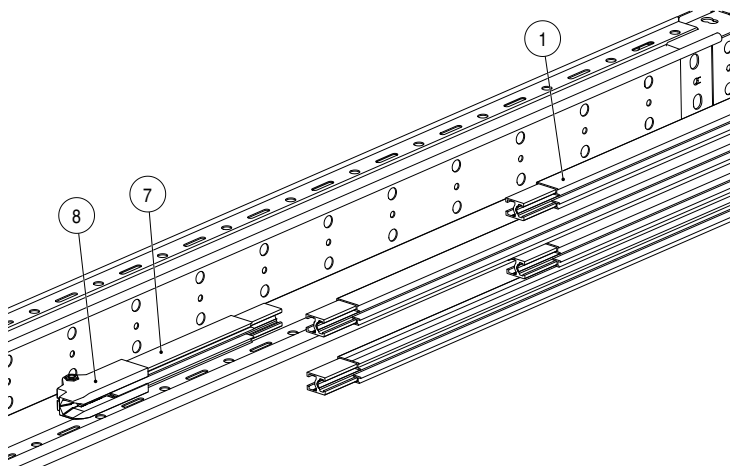
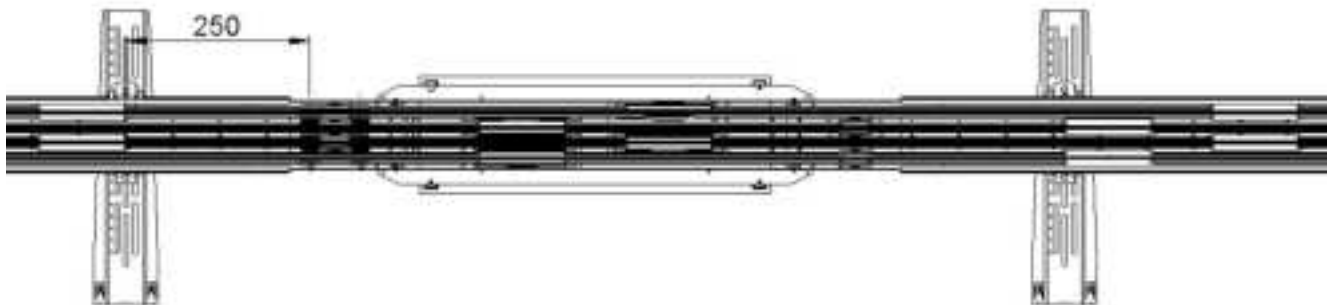

Fig. 34: Install short pieces (7) on conductor rail pieces
Fig. 42: Distance between connector and hanger clamp
This means that the short pieces (250 mm) (7) must be connected to the conductor rails (1) before installation in the terminal box (see Fig. 34).
7. Connect the conductor rails on the track to the end of the system (see BAL0812-0001). Note that the distance between the hanger clamps and the connectors must be at least 250 mm (see Fig. 42 to Fig. 44). If the conductor rail with the line feed and the anchor point is the last conductor rail of the system, the short pieces (7) and end caps (8) must be installed beforehand (see Fig. 34).
9. Install the end caps on the conductor rails at the end of the system (see BAL0812-0001) before hanging the conductor rails. If the conductor rail with the line feed and the anchor point is the last conductor rail of the system, the short pieces (7) and end caps (8) must be installed beforehand (see Fig. 34).